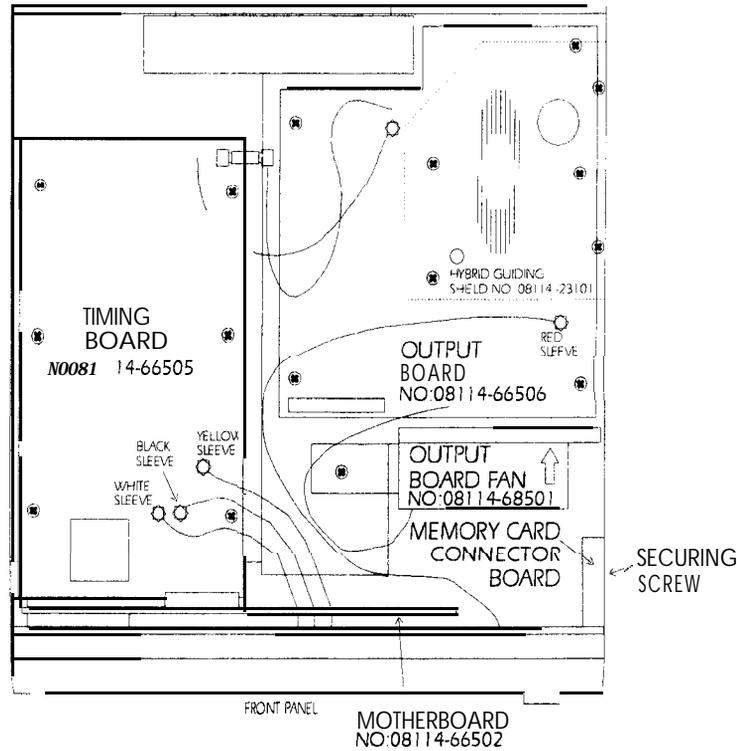

Figure 4-15. Location of the Memory-Card Connector Board
4. Remove the screw securing the memory-card connector board to the chassis. The screw is located at the outside of the chassis. See Figure 4-15.